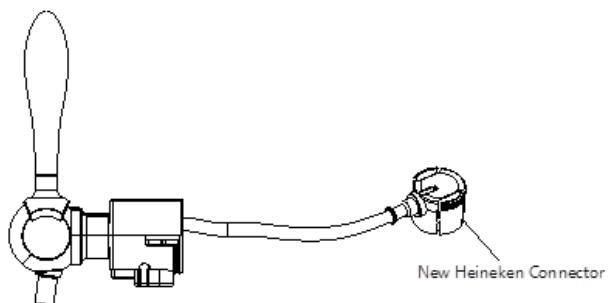
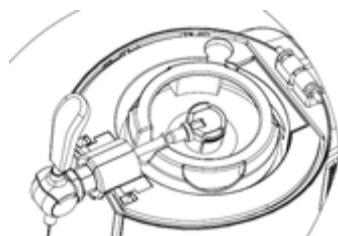

Figure 5 (For 5L keg only)
FIGURE 6 (For 5L keg only)
6. Align the beer outlet valve device vertically with the connecting part of the beer keg in the middle of the top surface of the beer keg, and immediately press it into the beer keg. When you hear a click, it indicates that the wine outlet device has been correctly fixed on the beer keg (as shown in Figure 5 below). After installing the valve device, put the beer keg into the refrigeration barrel of the machine.
7. **FOR A 5L KEG :** Replace the beer tube with the adapter (New Heineken connector) to the device's faucet. Then, connect the adapter to the beer connector of tape (Figure 5). When installing the new connector to the Heineken keg, you must firstly install the clear beer tube one end to the connector : one end to the tap mechanism, then install the connector to the Heineken keg (Figure 6).